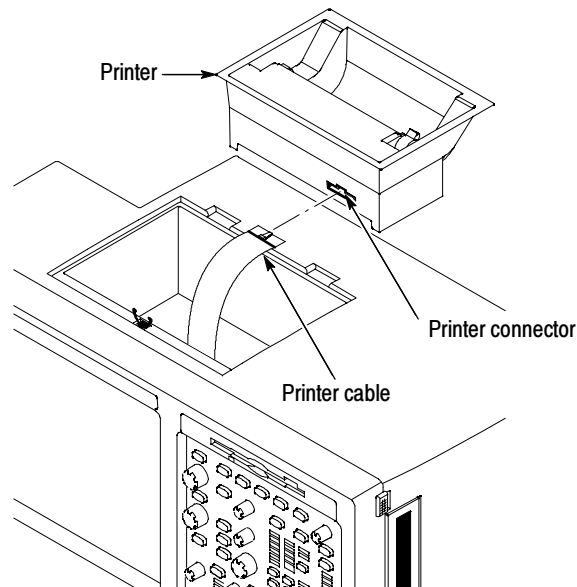

Figure 3: Printer cable connection
- d. If the internal printer is installed, disconnect the cable from the printer. See Figure 3, on page 8.